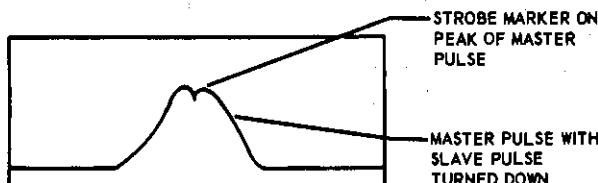

Figure 4-57. Operating Procedure for LORAN A Signal Acquisition Step 3f
f. Set FUNCT switch to position 3. Use the framing control to position the peak of the master pulse under the strobe marker. If it is difficult to identify the master pulse from the slave pulse, turn the slave gain down until the master pulse is present only. When this is done, the CRT display should appear as shown in figure 4-57.